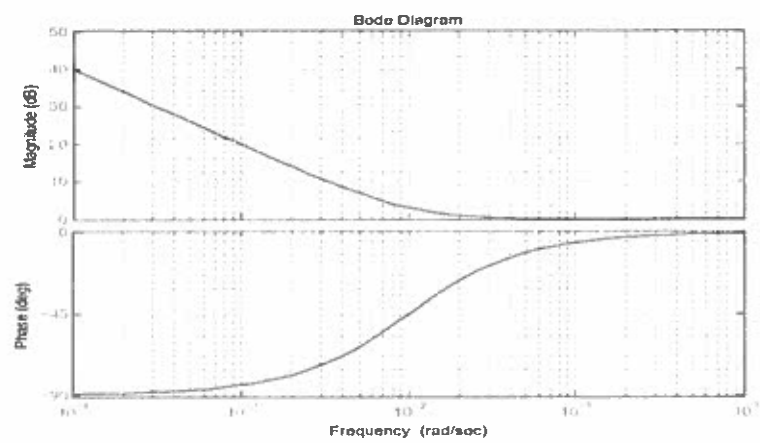

Figure 2.3
- d) Let $K(s)$ have the frequency response shown in Figure 2.3 overleaf. Describe $K(s)$ briefly and indicate its effects on the performance and stability of the feedback loop. [6]